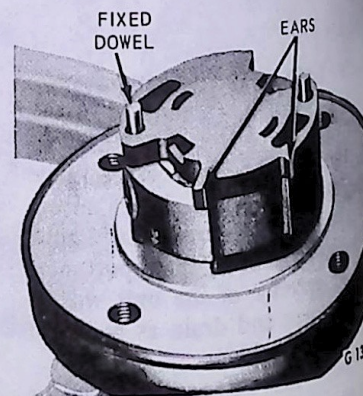

FIG. 16 Upper Pressure Plate Installation
11. Place the upper pressure plate with the face having the tapered notch down against the cam insert. The fixed dowel should pass through the round dowel hole and the loose dowel through the elongated hole. The slot between the ears on the pressure plate OD should match the notch on the cam insert OD (Fig. 16).